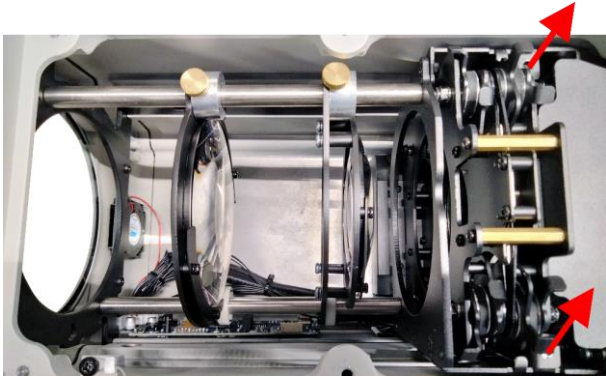

Fig. 14
- 05) Loosen the 2 screws on the gobo/shutter blade cover, as shown in Fig. 14.